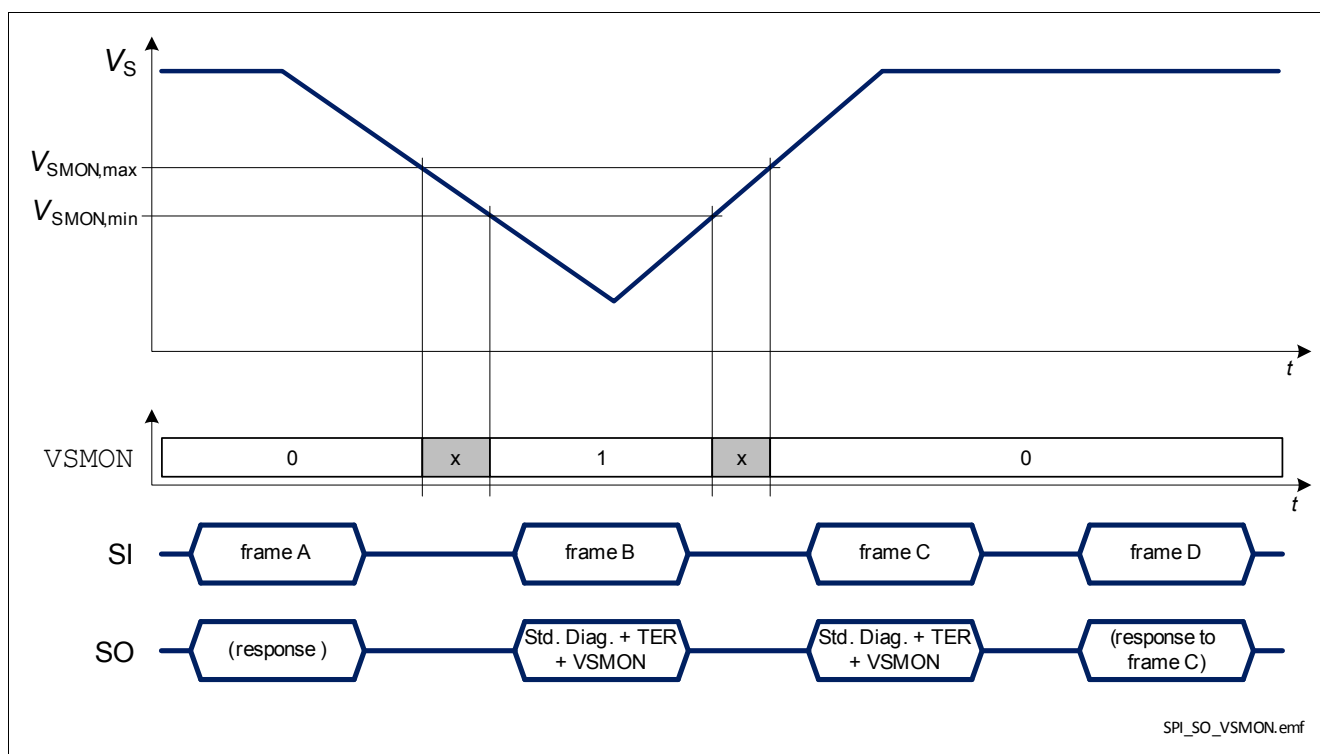

Figure 34 BTS54220-LBB response in case of a negative battery voltage transient
- when $V_S < V_{\text{SMON}}$ and $\text{DCR.MUX} \neq 111_{\text{B}}$, as shown in Figure 34